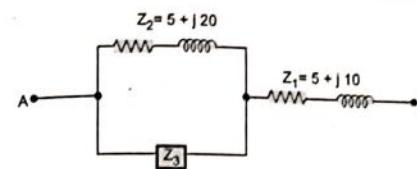

Fig. 3.8.10
**Ex. 3.8.7** When 220 V A.C. supply is applied across AB terminals in the circuit shown in Fig. 3.8.10, the total power input is 3.25 kW and the current is 20 amps. Find the current through  $Z_3$ .